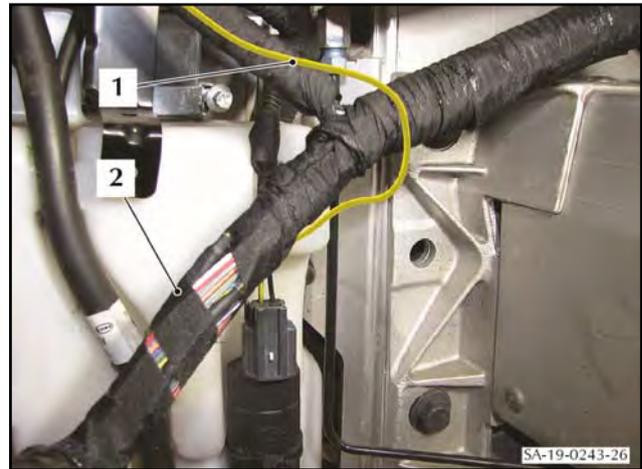

Figure 63
83. Put the new overlay wire (1) along the harness in the direction of the bulkhead (refer to Figure 63).
84. Wind harness tape (2) around the harness to hold the new ground wire.